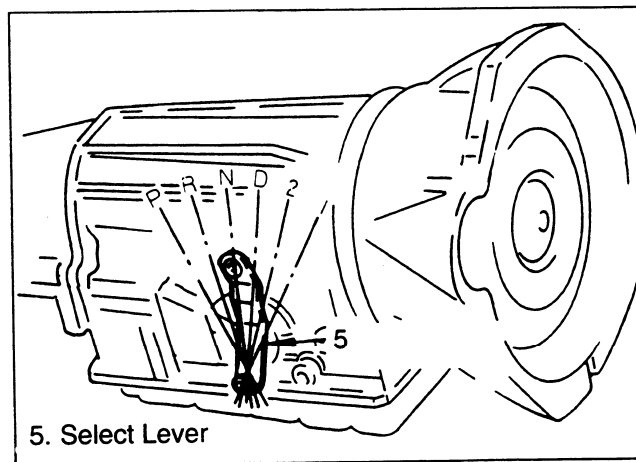

Figure 15. Moving Select Lever
5. Place the select range lever (5) in the “N” range (figure 15).